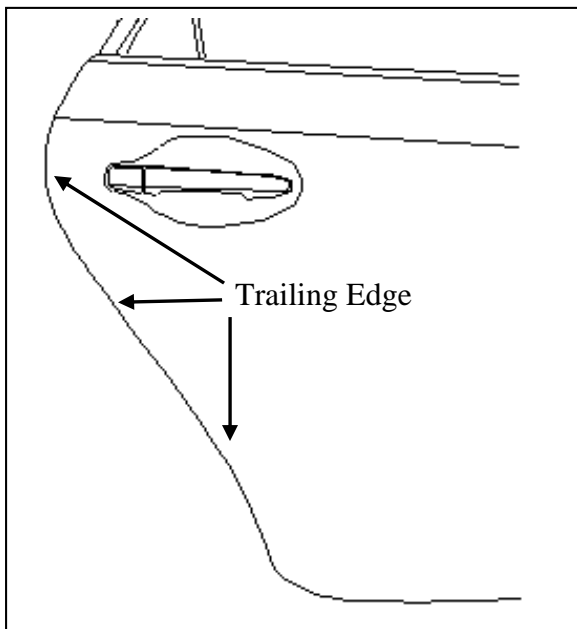

Fig. 1-1
- (a) Fully open rear passenger door and clean and dry trailing edge of door as needed with distilled water and lint free towel. (Fig. 1-1)